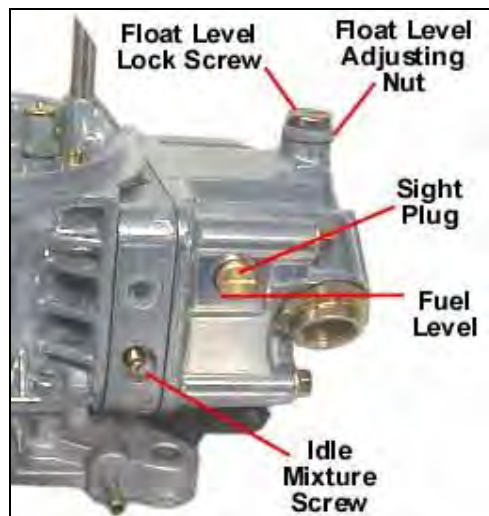

Figure 10
**NOTE:** A properly set float level will have the fuel level located at the bottom edge of the sight hole, as shown by the line in Figure 10.